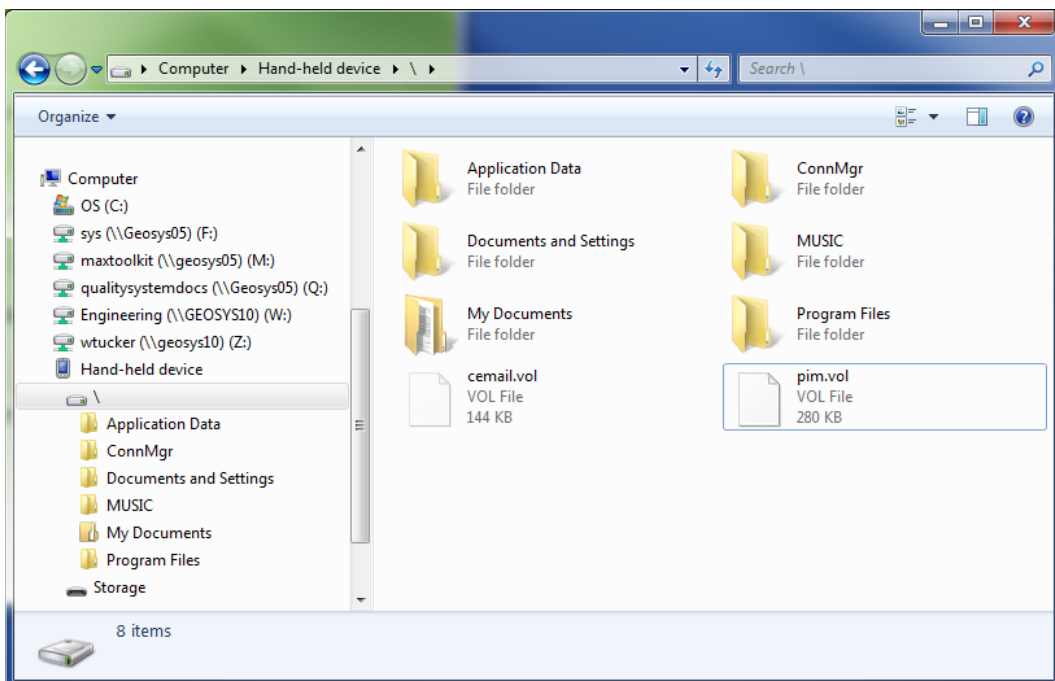

Figure 29 - Handheld Device Root Folder Contents
- 2) In the Explorer Window, double-click the icon labeled “\” to navigate to the handheld PC’s system root shown in Figure 29.